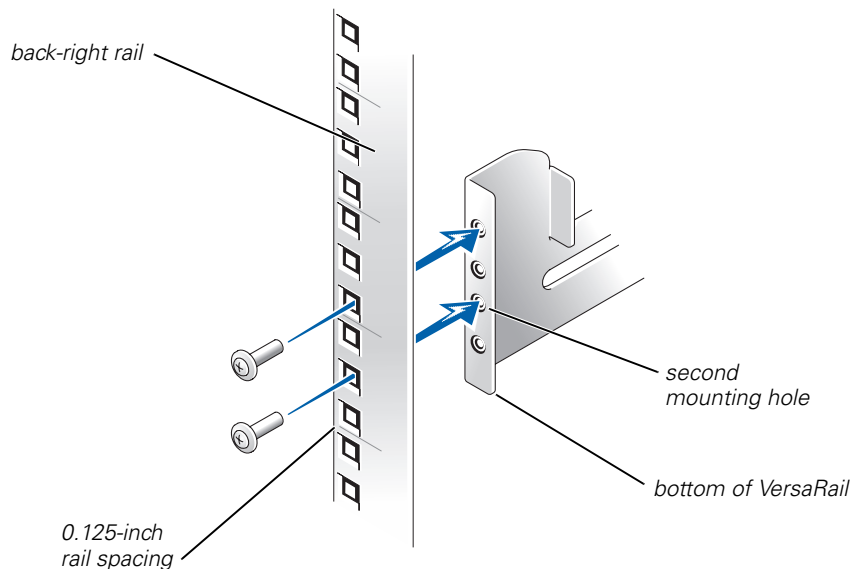

Figure 1-3. Aligning and Installing the VersaRail in the Back Vertical Rail
5. With the VersaRail level, secure the back of the VersaRail to the rack using two Phillips-head screws (see Figure 1-3).